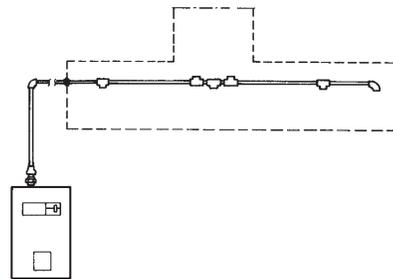

FIGURE 5-7
2. Based on the piping sketch developed in the “System Design” section of this manual, install the supply line and position the tees at points where branch lines must be installed. See Figure 5-7.